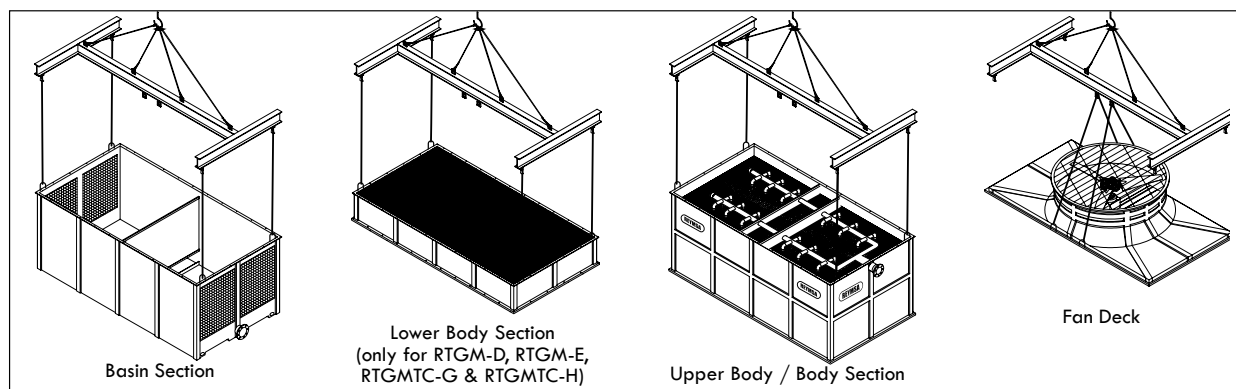

Figure A-82: Crane lifting for a Modular Tower (RTGM and RTGMTC)
- B. After assuring the equipment is received in proper condition, proceed to unload it from the transportation vehicle, piece by piece, with a crane (using a spreader bar) or forklift of the appropriate capacity, see Figure A-82 for an example.
- C. For crane lifting, it's recommended to use a minimum lifting angle of 60° between the strap and the horizontal. Each section of the Tower has U-bolts for lifting. Place the straps through the U-bolts (as shown in Figure A-82) and use a spreader bar to avoid damage on the upper edge of the Tower. Don't balance until tensing the straps.